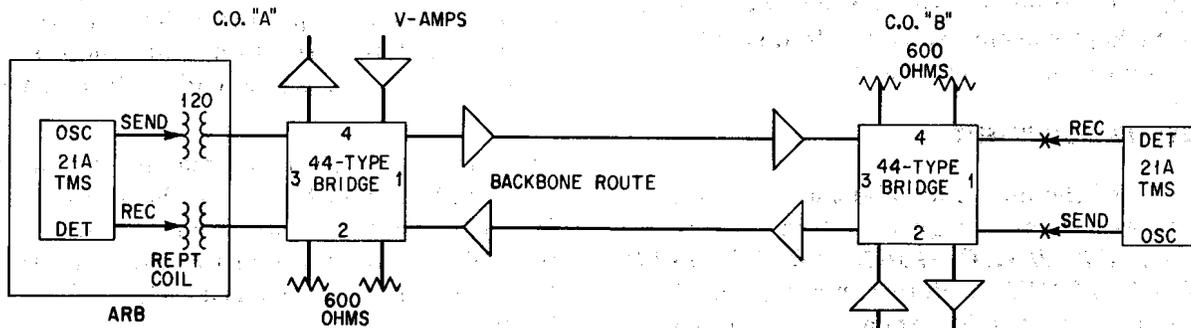

Fig. 2 — Testing Arrangement for Response of Backbone Route
ARB headquarters. If the route is split, measurements should also be made from the most remote central office on the branch. Measurements should be made in accordance with Fig. 2 which is a typical testing arrangement. **ALL BRIDGING CIRCUITS AND LOOPS SHOULD BE CONNECTED NORMAL BEFORE MAKING THE TEST.**
**5.02** Chart I outlines the procedure for making frequency response measurements on the backbone route. While Fig. 2 shows a 21A TMS, other sets recommended in Part 2 may also be used. This means that the procedure set forth in Chart I may have to be revised slightly depending on the test sets used.